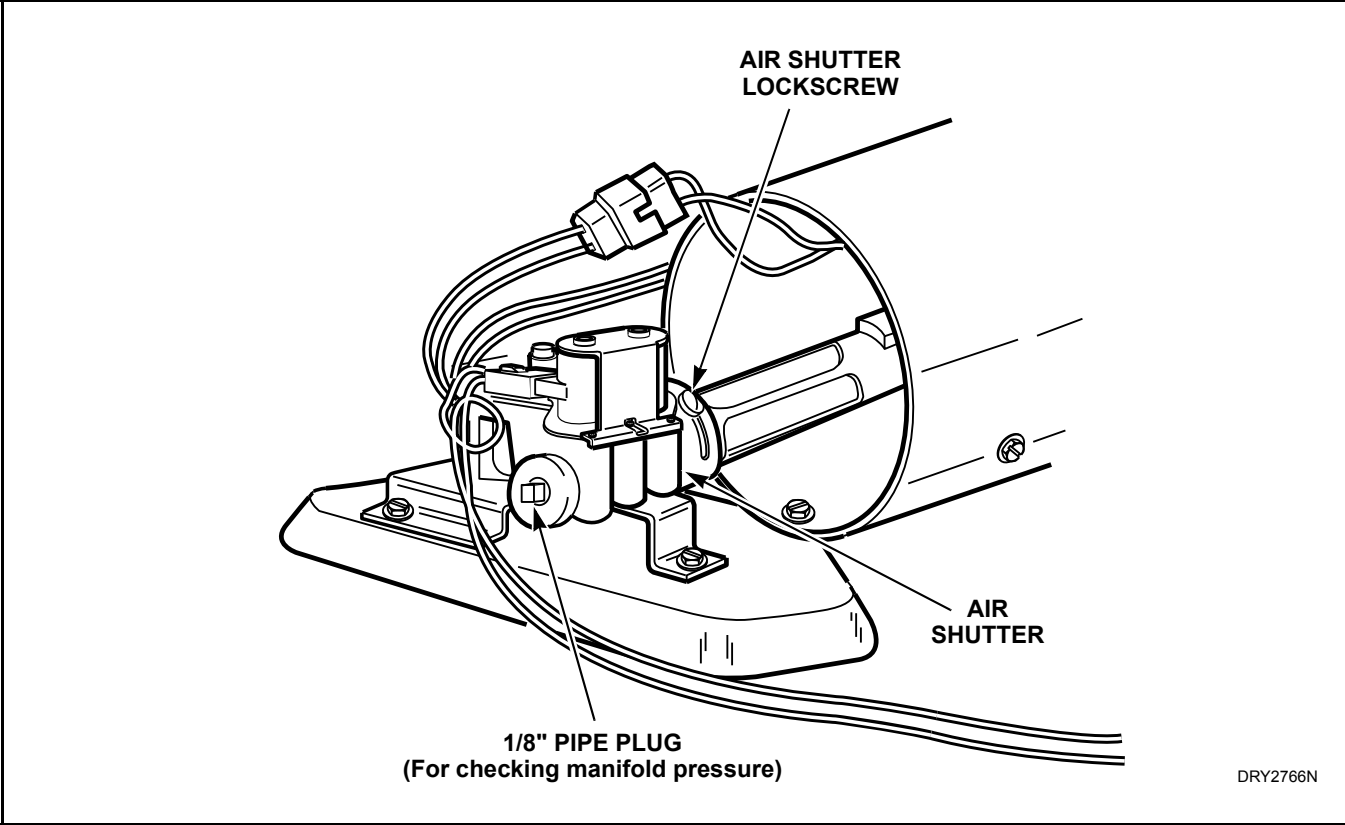

Figure 2
- Allow the dryer to operate for approximately five minutes, then loosen the air shutter lockscrew. Refer to *Figure 2*.
- After proper flame is obtained, tighten air shutter lockscrew firmly. Refer to *Figure 2*.